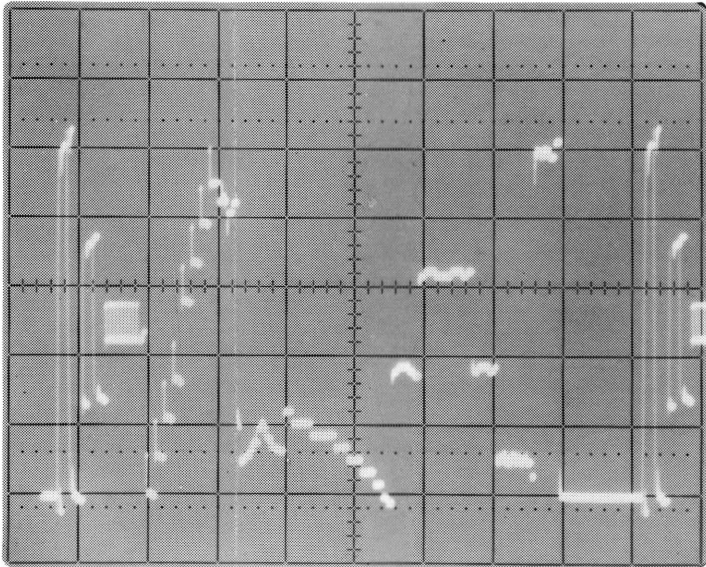

Figure 5-13. Y-Amplifier Auxiliary Output
- c. Monitor A1J4 Pin 2 and check oscilloscope for a display as shown in figure 5-13.